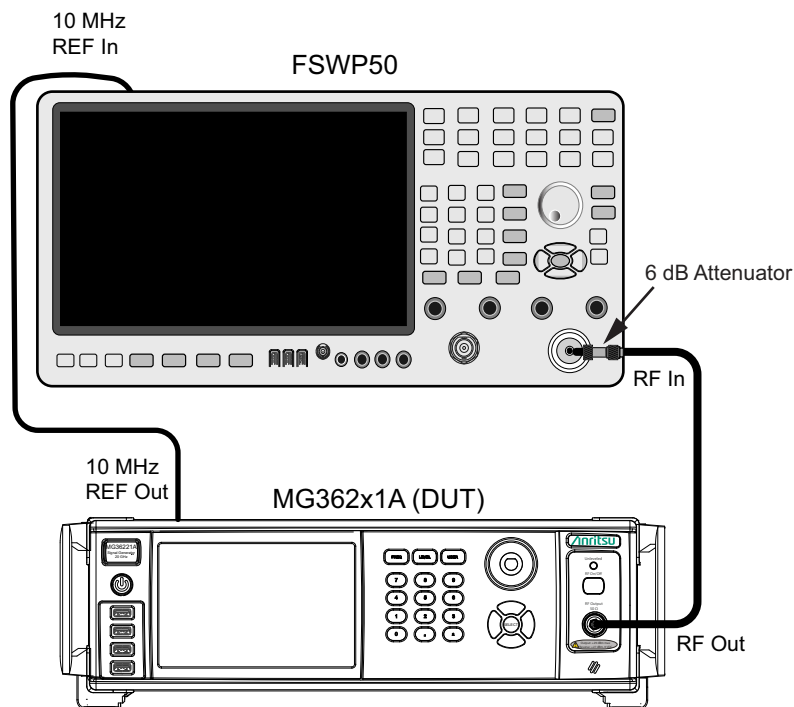

Figure 3-5. Phase Noise Test Setup
- e. Connect the MG36221A and MG36241A as shown in Figure 3-5.